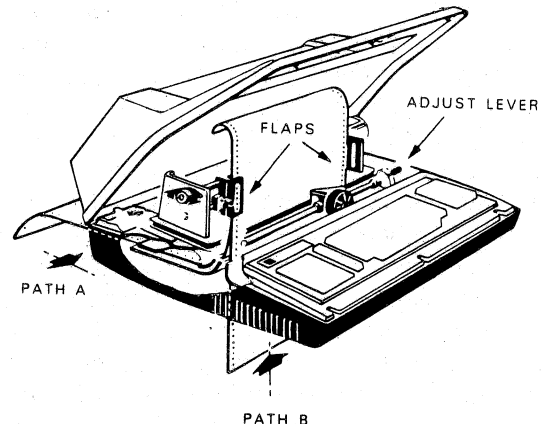

Figure 2-2. Paper Loading Instructions
The Model 820 KSR terminal will accommodate continuous form paper with standard sprocket holes on each edge in widths from 76.2 mm to 377.8 mm (3 inches to 14.875 inches). Using either the rear chute or the bottom chute (Figure 2-2), single or multipart forms (one original and up to five copies) can be printed on paper with the following weight specifications:
3. Feed the paper into the paper chute at the rear (Path A, printing side down) or up through the bottom (Path B, printing side forward) until the paper appears at the platen (Figure 2-2).